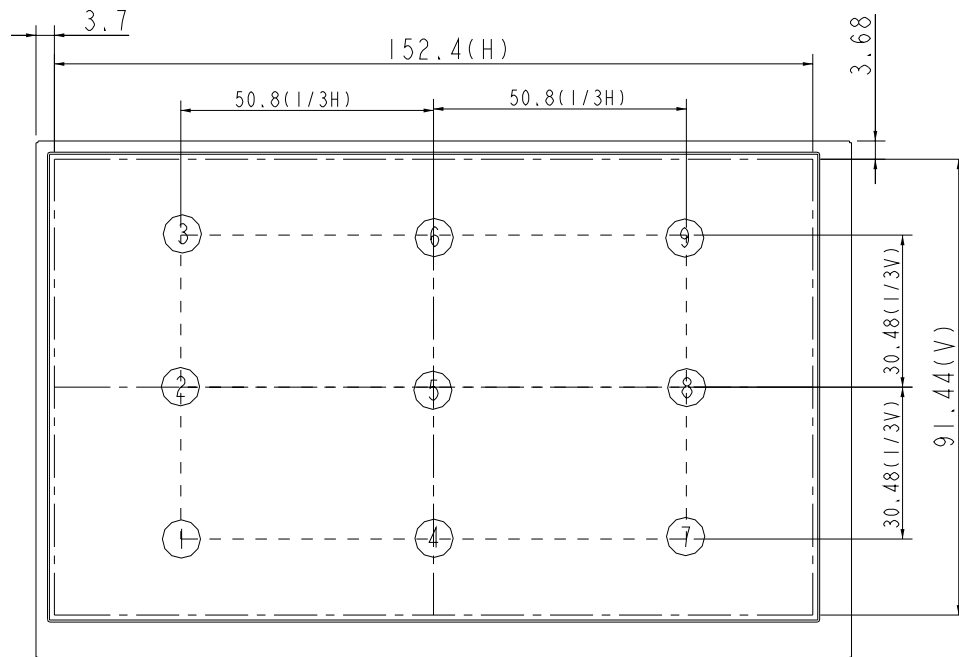

Fig.1 Measuring point
*2) Definition of contrast ratio : Measure contrast ratio on the # 5 points (refer to figure1) .
*3) Definition of Luminance Uniformity : Measure maximum luminance(L(MAX))and minimum luminance (L(MIN)) on the 9 points as figure 1(#1~#9 poin).